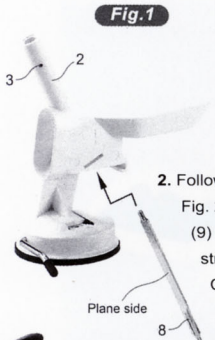

Fig. 1
1. To assemble this product, penetrate Seed-stripping Rod (8) into Casing (2) from bottom to top shown as per Fig.1.